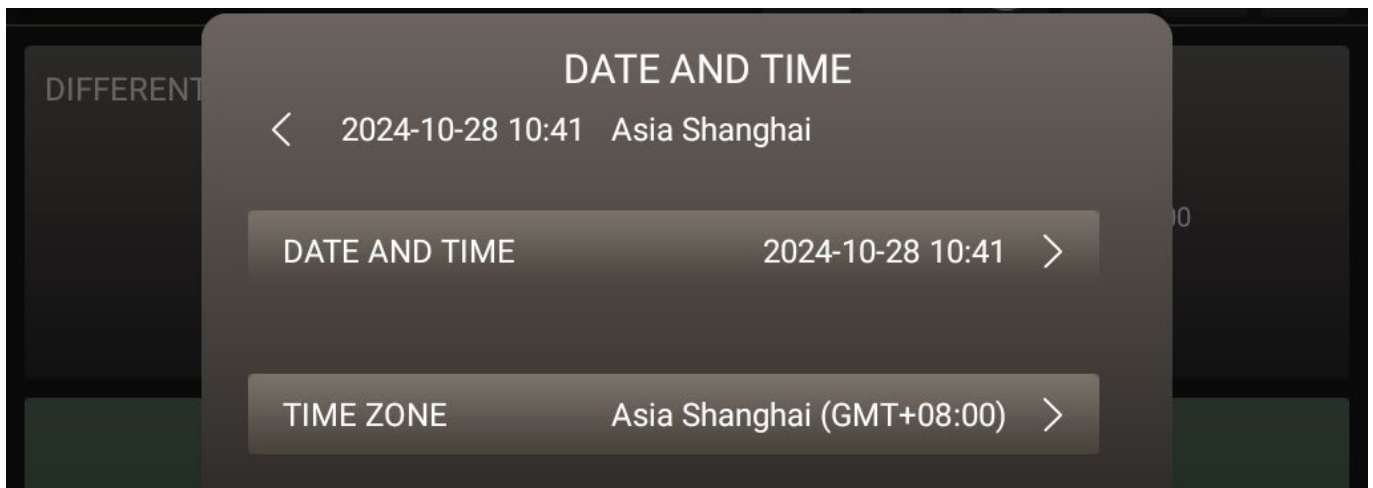

Fig. 12-9
1. **Date and Time Setup (Fig. 12-9):**